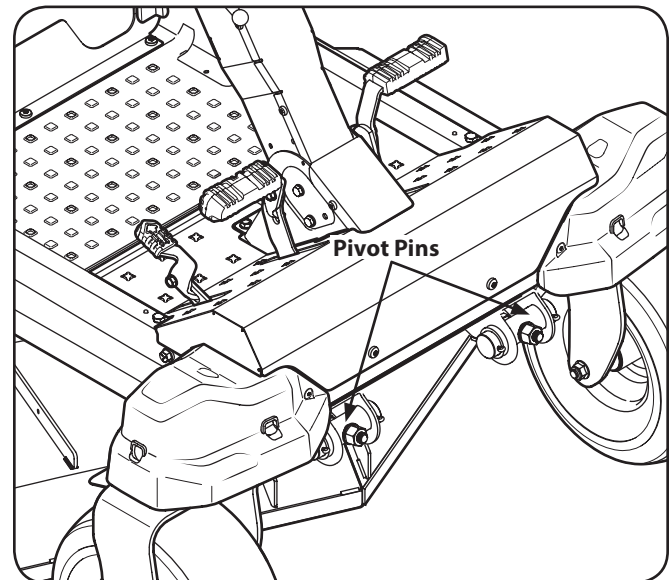

Figure 6-8
5. Using a wrench, raise the front of deck by loosening the lock nuts to the front of the pivot pin and then tighten the jam nuts on the back of the pivot pin to raise the front of the deck and secure in place. See Figure 6-8.
6. Using a wrench, lower the front of deck by loosening the jam nuts on the back of the pivot pin and then tighten the lock nut on the front of the pivot pin to lower the front of the deck and secure in place. See Figure 6-8.